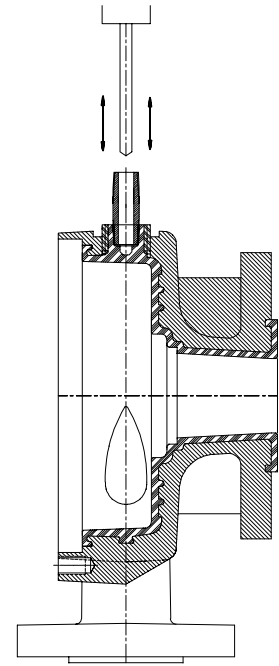

Figure 9-3: Drilling hole
- 2 Drill the drain hole using a 1/4" diameter drill size. The pipe nipple will easily and safely guide the 1/4" drill through the casing lining (Figure 9-3).